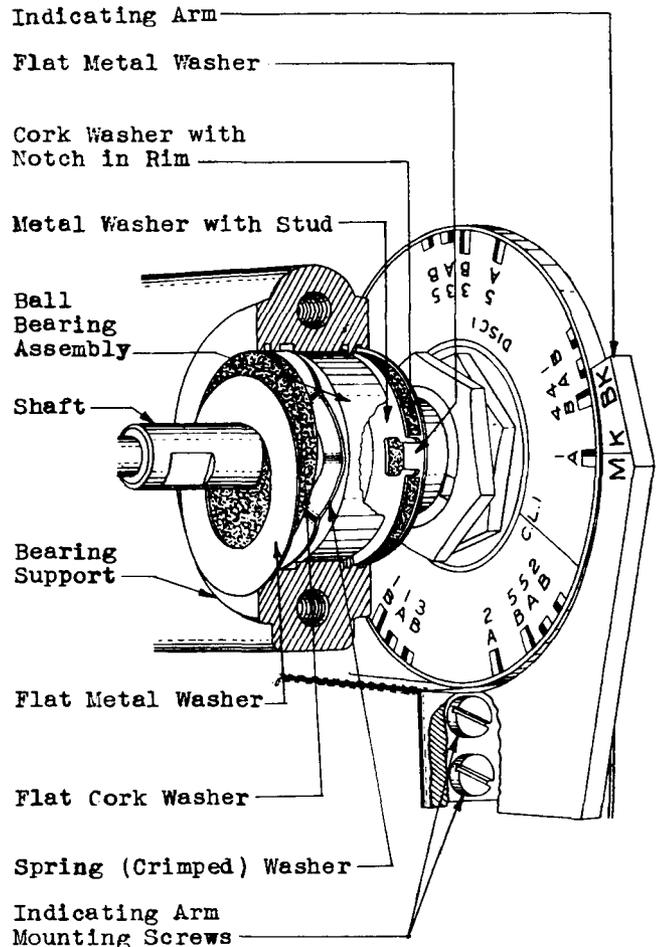

Fig. 19 – Bearing Assembly at Left-Hand End of Shaft
3.22 Reassemble the bearing so that all parts assume their correct position as illustrated in Figs. 19 and 20 and as follows: Put three washers on the shaft in the following order: flat metal washer, cork washer with notch in rim, metal washer with stud. Make sure that the metal washers fit into the grooves provided for them in the bearing support and also that the stud in the latter washer fits into the hole in the cork washer. Rotate the washers until the projections on the washer with the stud are toward the front and so that the two rectangular notches in this washer line up with the edges of the bearing support. Retighten the bearing cap mounting screws of the bearing at the other end of the shaft. Then put the balls and retainer and the outer ball race in position. Put the outer three washers in position in the following order: for bearings at the left-hand end of the shaft — spring (crimped) metal washer, flat cork washer,